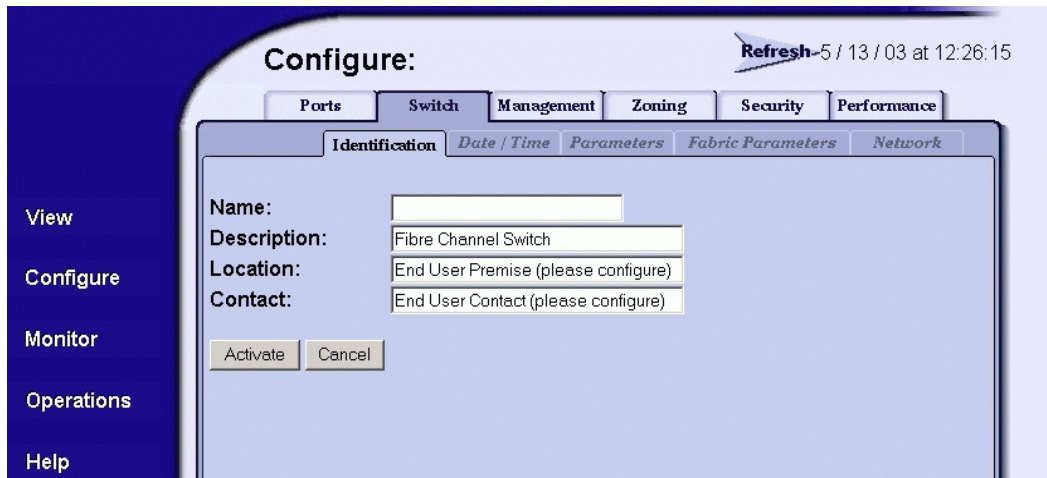

Figure 2-6 Configure Panel (Switch Page with Identification Tab)
1. At the *Configure* panel, click the *Switch* tab. The *Switch* page displays with the *Identification* tab selected (Figure 2-6 on page 2-12).